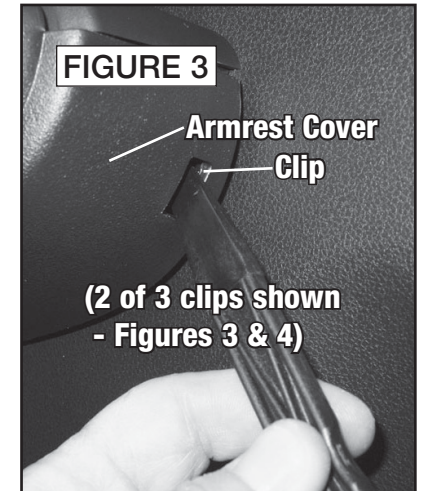

FIGURE 3
5. Pry out sides of receiver trimpanel to release eleven (11) clips. Disconnect wiring harnesses and remove factory radio assembly (Figures 3, 4 & 5).
3. Push in three (3) clips along bottom of armrest, then pull off armrest cover to remove (Figures 3, 4 & 5).
3. Pull door release trim toward the front of the vehicle to release, but do not remove (Figure 3).